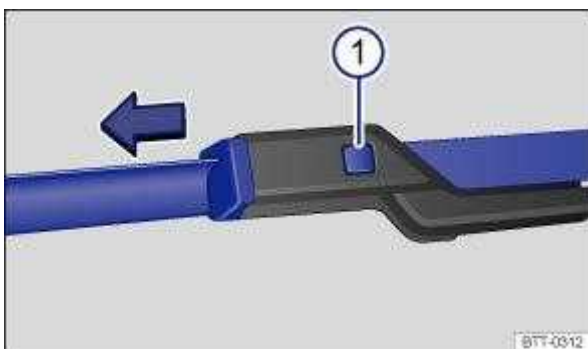

Fig. 164 Changing the windscreen wiper blades.
- ☒ Press and hold the release button ⇒ Fig. 164  and simultaneously pull off the wiper blade in the direction of the arrow.